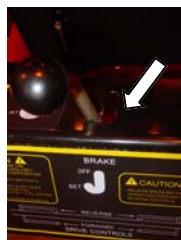

Figure 3
1. Make sure the brake has been moved to the "OFF" Position. (Figure 3)